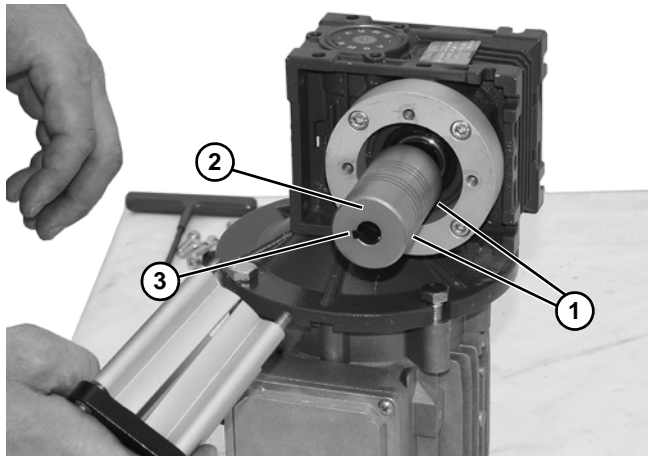

Figure 26
4. Loosen two (2) set screws (**Figure 26, item 1**) and detach coupling (**Figure 26, item 2**) from gear reducer.
5. Remove gear reducer output shaft key (**Figure 26, item 3**).
10. Attach coupling (Figure 26, item 2) to gear reducer shaft. Tighten two set screws (Figure 26, item 1) to 32 in-lb (3.7 Nm).
6. With output shaft key (**Figure 26, item 3**) in keyway, attach coupling (**Figure 26, item 2**) to gear reducer shaft. Tighten two set screws (**Figure 26, item 1**) to 32 in-lb (3.7 Nm).